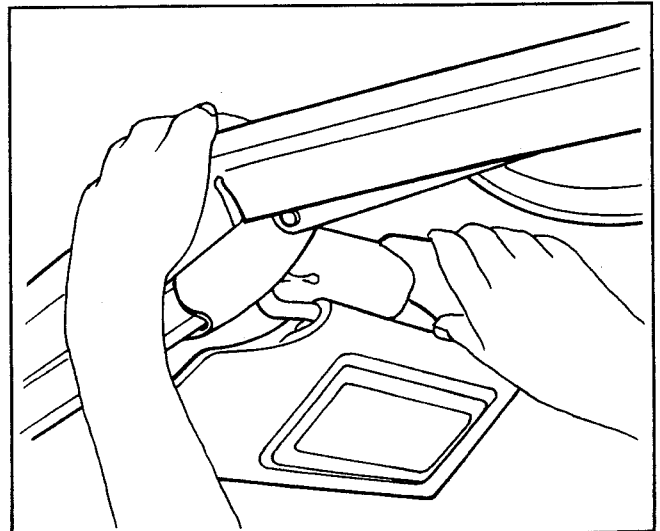

Figure 18. Lock Latches
4. Insert the augers into the receivers and actuate the handles to lock the top stack to the windshield header (Fig. 18). Raise the sun visors.